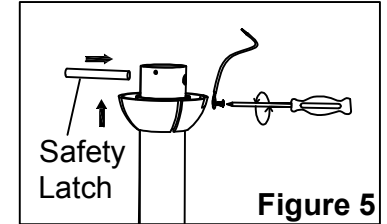

Figure 5
- 2.Place the lifting head and insert the safety latch. Take the screws and tighten the lifting head. Remember to lock the ground wire together. **(Figure 5)**